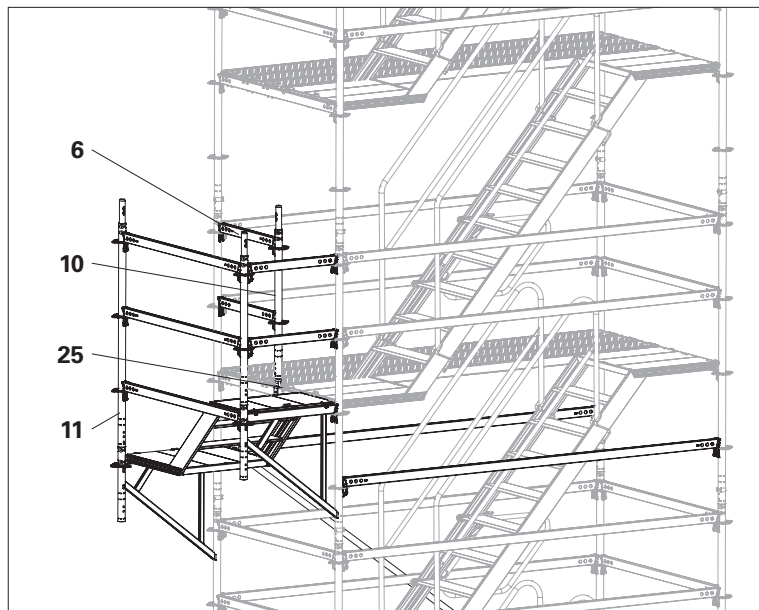

Fig. A7.05
1. Fit a UH-Spigot-2 (25) onto the horizontal ledger.
2. Fit a Standard UVR-2 100 (10).
3. Fit 2 x Horizontal Ledgers UH-2 75 (6) as lateral protection. (Fig. A7.05)